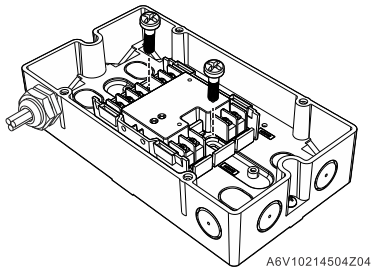

Fig. 6
- Installation in housing FDCH221 (Fig. 6). The housing needs to be ordered separately.
5. Fix the module in the housing using two M3 x 12 screws (Fig. 6).